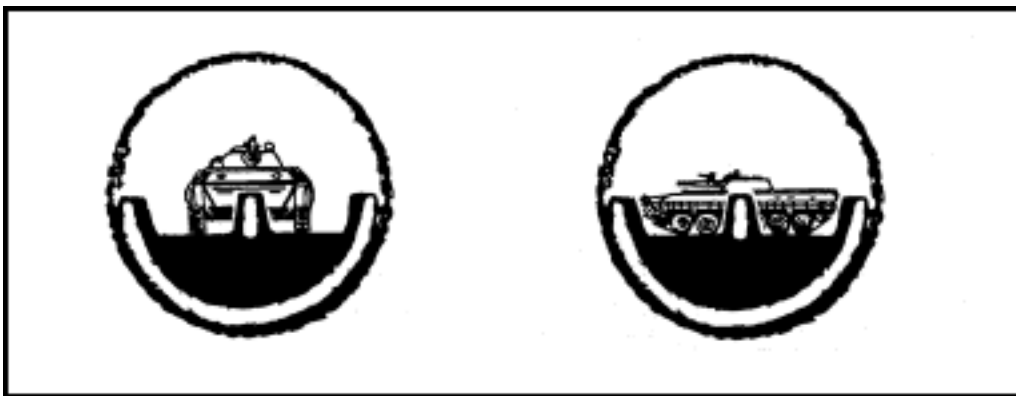
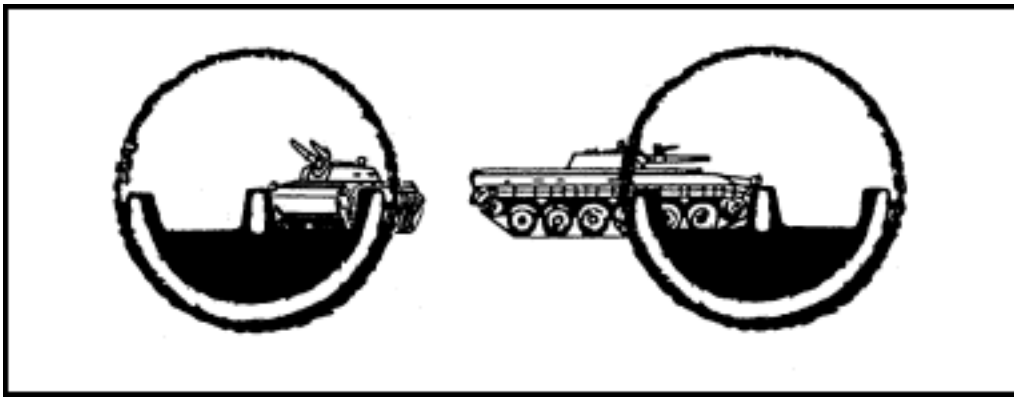
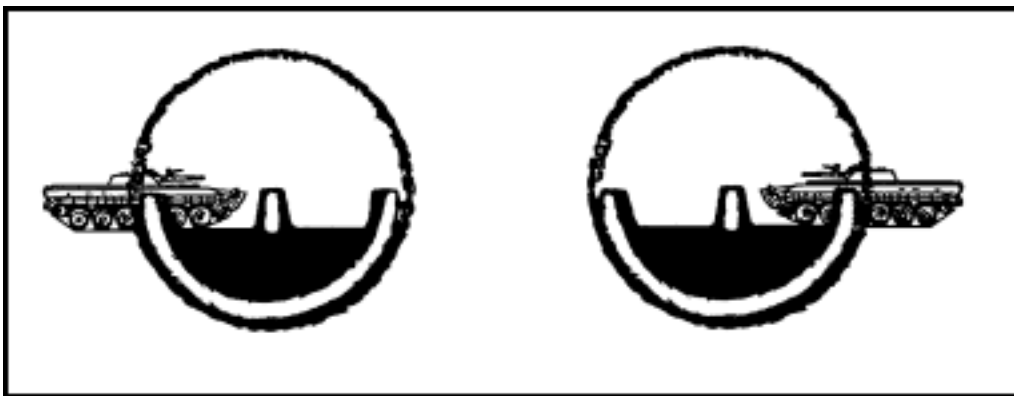

Figure 4-8. Sight picture, stationary targets, M136 AT4.
Figure 4-9. Sight picture, slow-moving targets, M136 AT4.
Figure 4-10. Sight picture, fast-moving targets, M136 AT4.
(2) **M136 AT4.** *Stationary targets* include those moving directly toward or away from the firer. Adjust the rear sight for the correct range and place the center sight post in the center of the target (Figure 4-8). *Slow-moving vehicles* are those with an estimated speed of 10 mph or less, or those moving in an oblique direction. Place the center sight post on the front or leading edge of the vehicle (Figure 4-9). *Fast-moving vehicles* are those estimated to be moving faster than 10 mph. Place either the left or right lead post on the center of the target. For example, if the target is moving from left to right, place the left lead post on the target's center of mass, and vice versa (Figure 4-10).